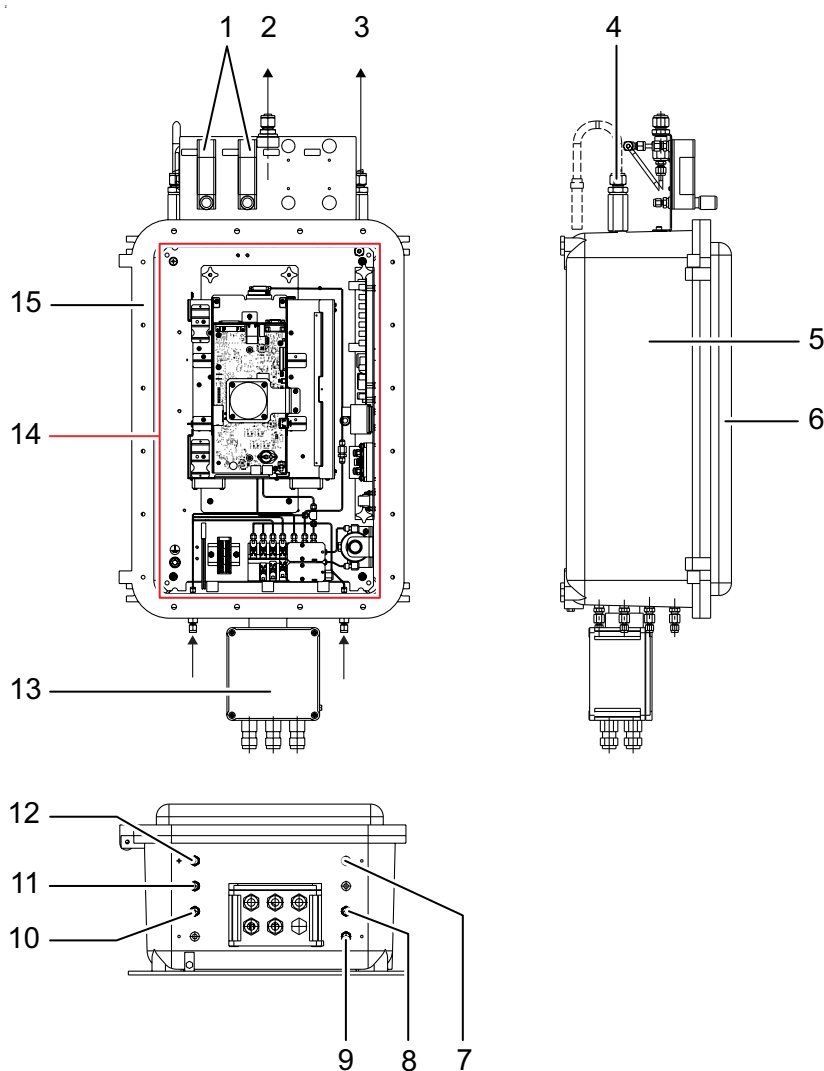

Fig. 3: PGC 9301 with housing for wall-mounted assembly
- PGC 9301/PGC 9301 Biogas with housing for wall-mounted assembly (see fig. 3)